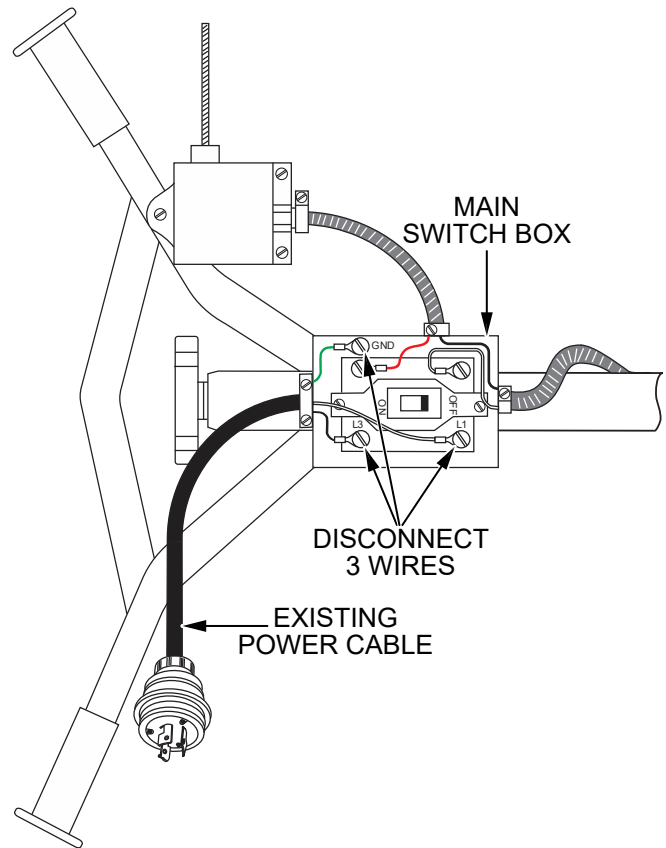

Figure 3. Disconnect Power Cable Wires
2. Open the main switch box and disconnect the three power cable wires (Figure 3).